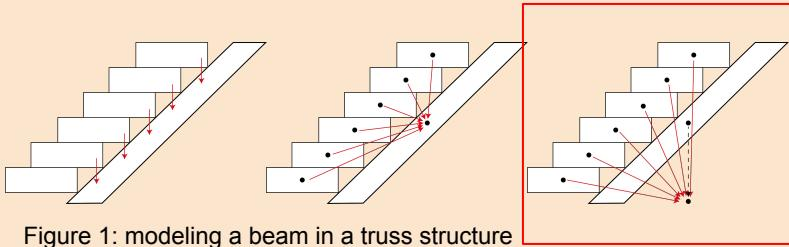

Figure 1: modeling a beam in a truss structure
- Modeling arches in a truss structure (figure 1)